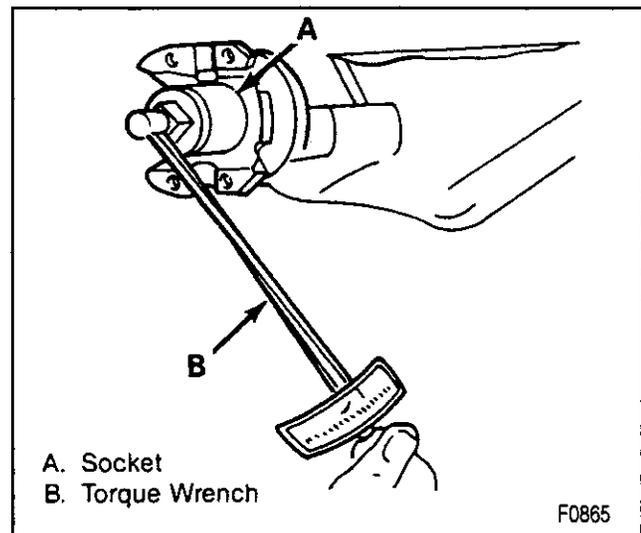

Figure 15—Measuring Pinion Rotating Torque
↔ Remove or Disconnect (Figures 15 through 18)
- The torque required to rotate the pinion (figure 15). Record the torque value for later reference.
- The rotating torque of the pinion and compare with the torque recorded earlier (figure 15).